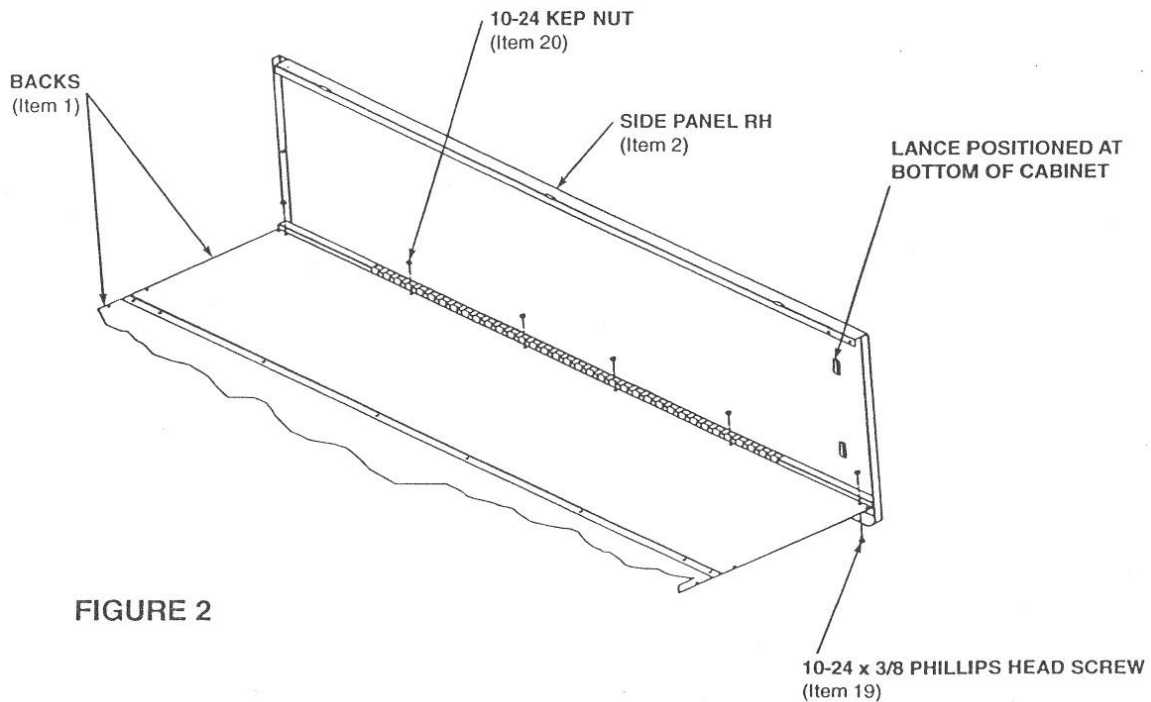

FIGURE 2
Place the slotted side of the back inside the rear flange of the side panel RH (Item 2). The lances should be positioned at the bottom of the cabinet. Align the six (6) holes in the side panel with the holes in the back and secure together with six (6) 10-24 Kep nuts (Item 20). See Figure 2. Repeat procedure for side panel LH (Item 3).